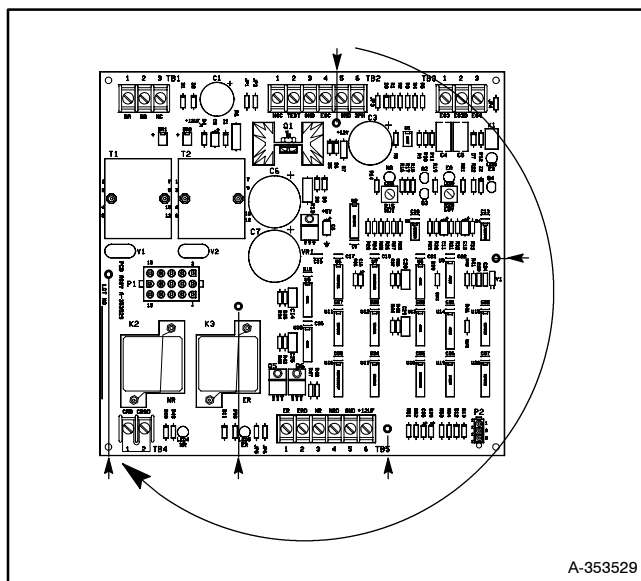

Figure 6-13 PCB Removal
2. Five push-on PCB standoffs at various locations on the mounting plate also holds the circuit board. Carefully pry the circuit board away from each standoff at the locations shown by the arrows in Figure 6-13. Pry near the standoff located below terminal strip TB2 first and work clockwise.